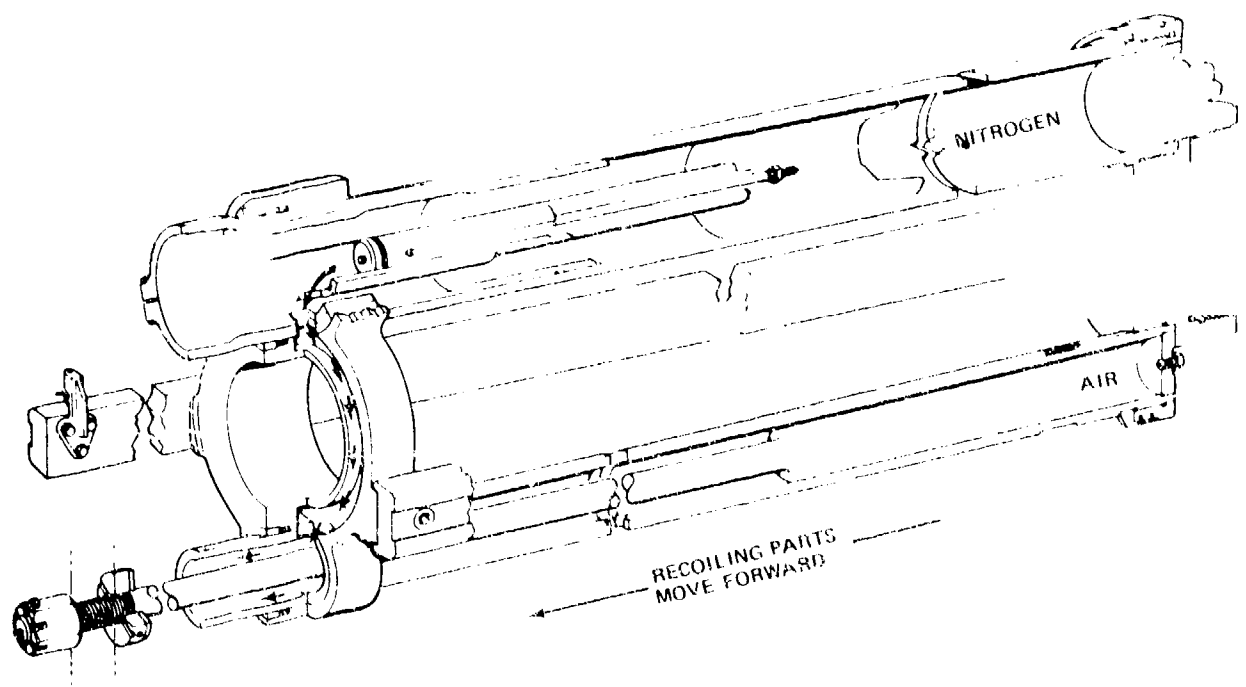

Figure 4-31. Variable dependent recoil system during counterrecoil action.
(2) *Action in counterrecoil.* When the recoiling parts are brought to rest at the end of recoil, the unbalanced force of the greatly compressed nitrogen gas forces the floating piston and diaphragm forward, pushing the recoil oil back through the regulator into the cylinder against the back of the recoil piston. Since the recoil piston is stationary, the force is transmitted to the front inside face of the recoil cylinder, and the recoiling parts are thereby pushed back to the in-battery position (fig 4-31).